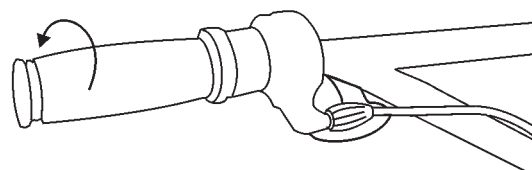

Figure 23. Throttle (Idle Position)
2. Rotate the throttle (Figure 23) toward the "RUN" position.